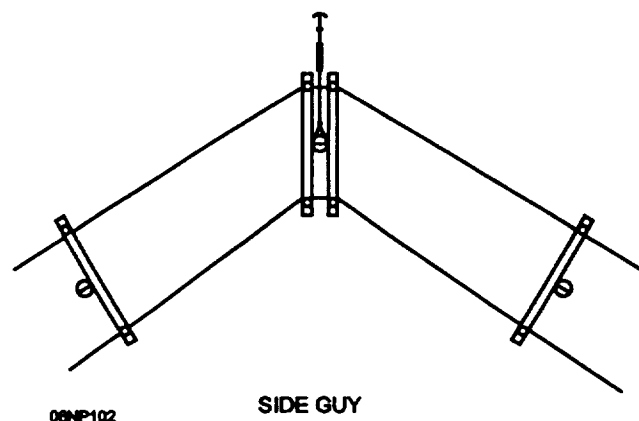

Figure 4-5.—Side guy.
**SIDE GUY.**—When the line makes an angle, a side pull is produced on the pole. Side guys should be installed to balance the side pull (fig. 4-5). When a branch line takes off from the main line, an unbalanced side pull is produced. A side guy should be placed on the pole directly opposite to the pull of the branch line.